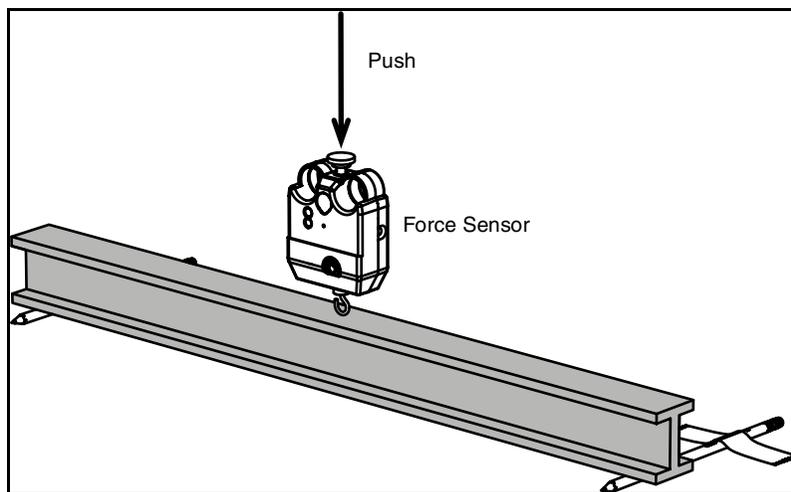

Figure 10: Push down with force sensor
2. Hold the force sensor in your hand and push straight down on the center of the I-beam (Figure 10). Gradually increase the applied force until the I-beam has deflected a few millimeters.